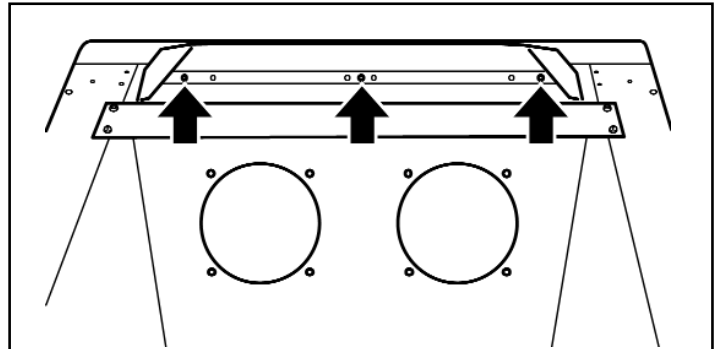

Figure 15. Fitting outlet baffle (The outlet baffle design may differ from that shown)
6. The **Adorn**, **Visage** and **Dream** models have an outlet baffle supplied with the appliance fascia. Fit this to the convected air outlet of the appliance using the three self tapping screws supplied with the fascia (See figure 15).
The **Icon** model has a heat baffle supplied with the appliance fascia. Fit this to the convected air outlet of the appliance using the three self tapping screws supplied with the fascia (See figure 15).